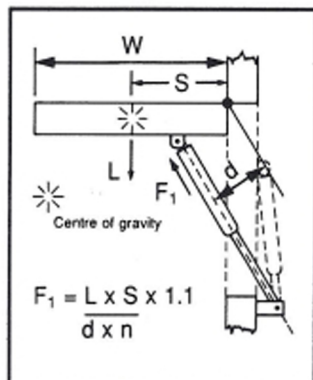

Fig. 1
- 3) Measure the width of door/lid ('W' on figs 1 & 2).